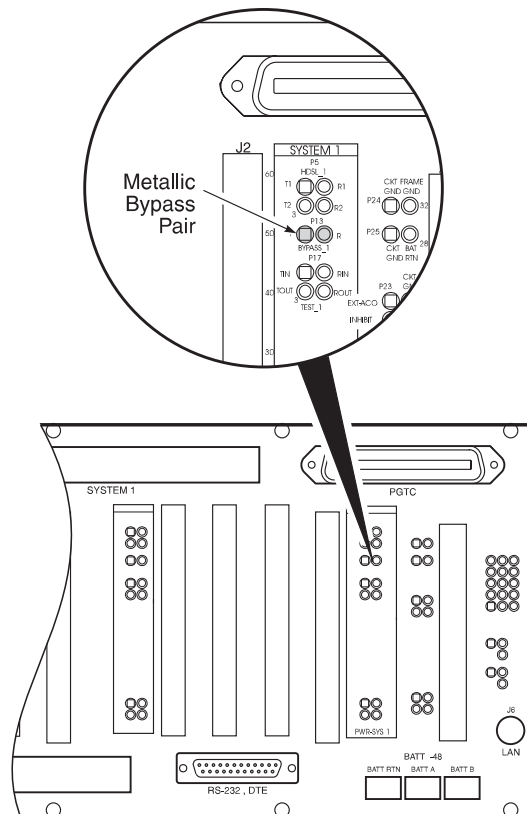

Figure 7. Connecting the Metallic Bypass Pair
8.4 Bypass Pairs. If subscriber drop testing is required, connect the metallic bypass pairs (Figure 7).